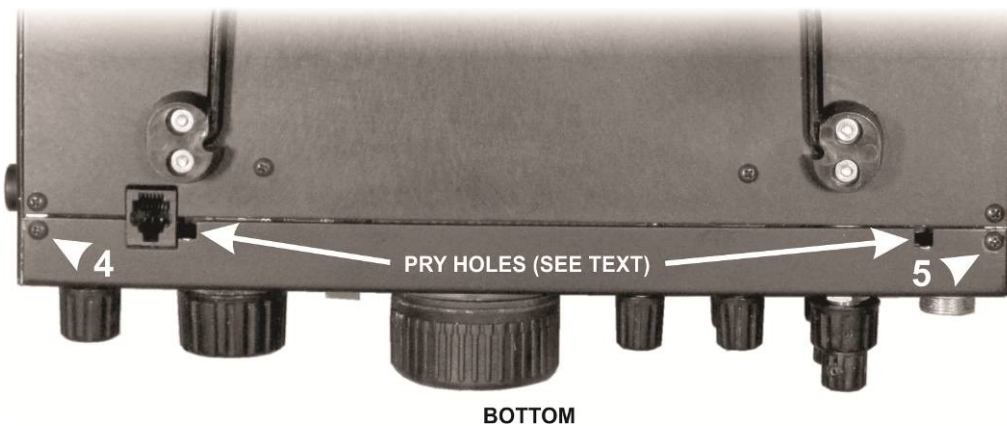

Figure 4. Removing the Bottom Front Panel Screws.
- ☐ Turn the K3/K3S over and remove the two screws on the bottom shown in Figure 4